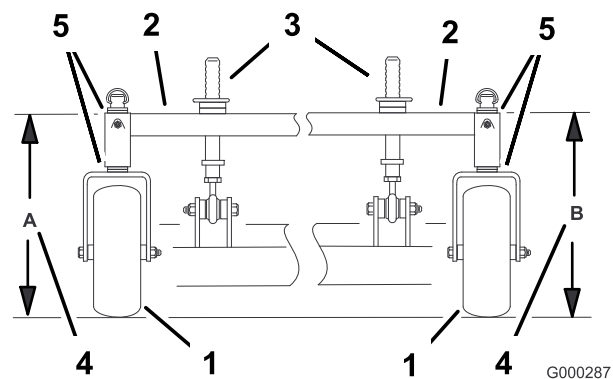

Figure 64
- Measure carrier frame height at location **A** (Figure 64).
- Measure carrier frame height at location **B** (Figure 64).